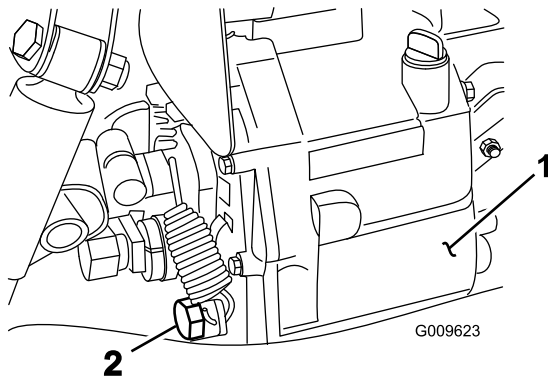

Figure 63
4. Remove the drain plug from the side of the reservoir, and let the hydraulic fluid flow into a drain pan (Figure 63).